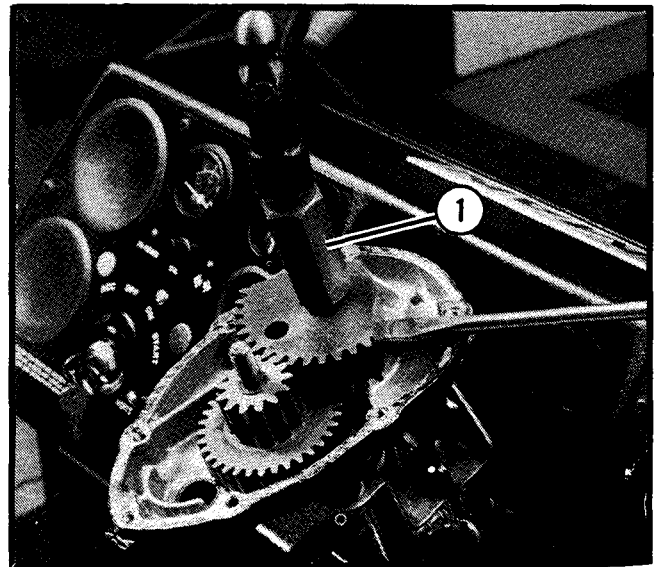

Figure 2.
3. Remove the driven steering gear retaining nut. The gear may be removed by the use of special tool part number 809316. See Figure 2.